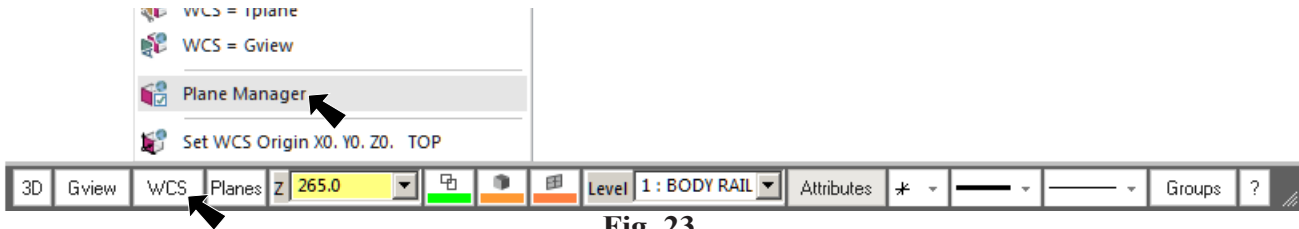

Fig. 23
Step 1. Click **WCS** in the Status Bar at the bottom of the graphics area and **Plane Manager** from the menu, **Fig. 23**.